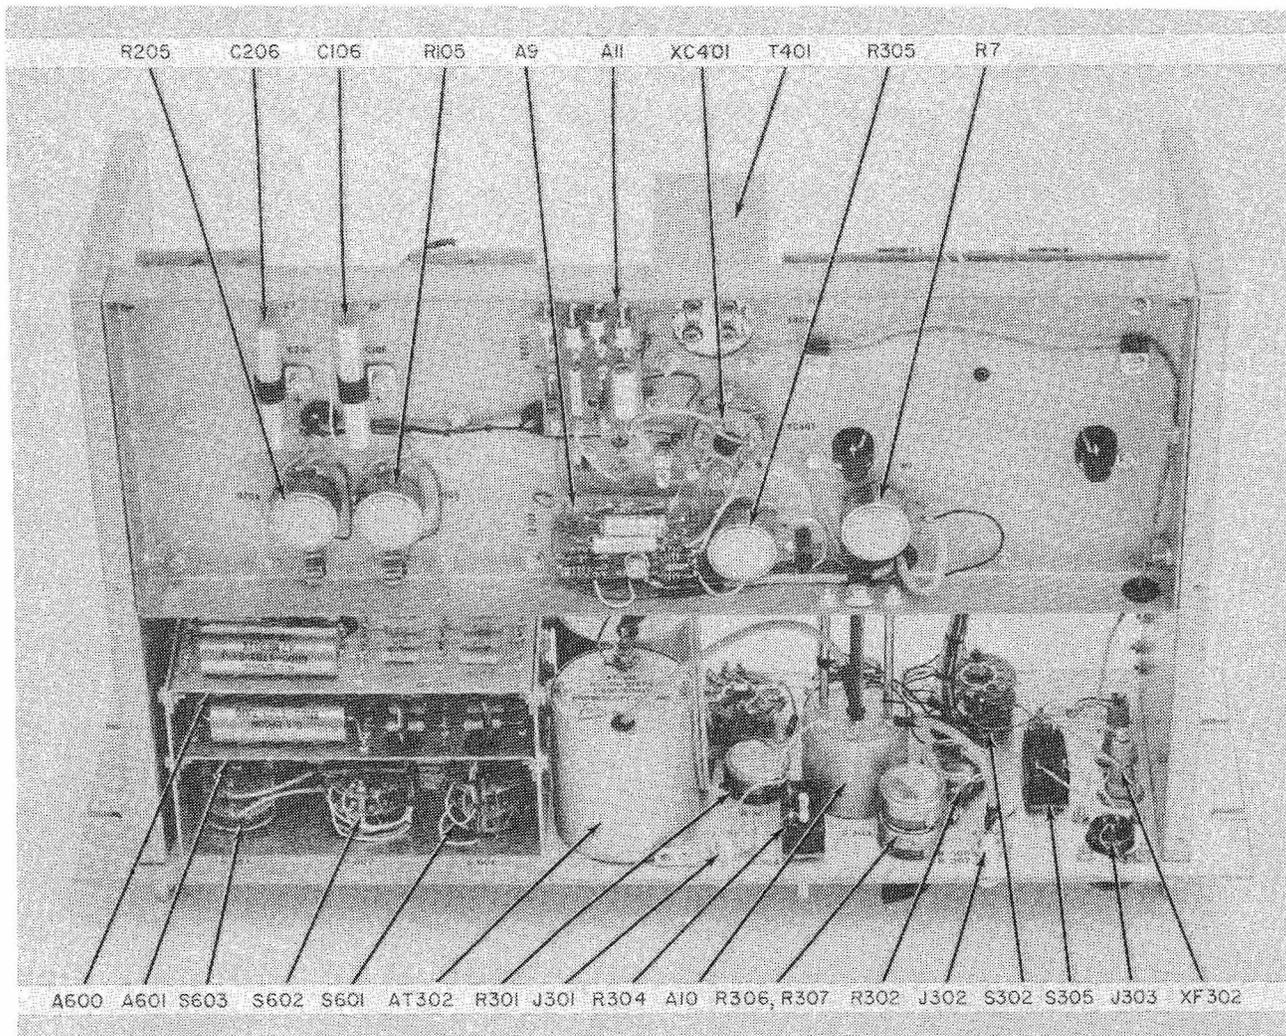
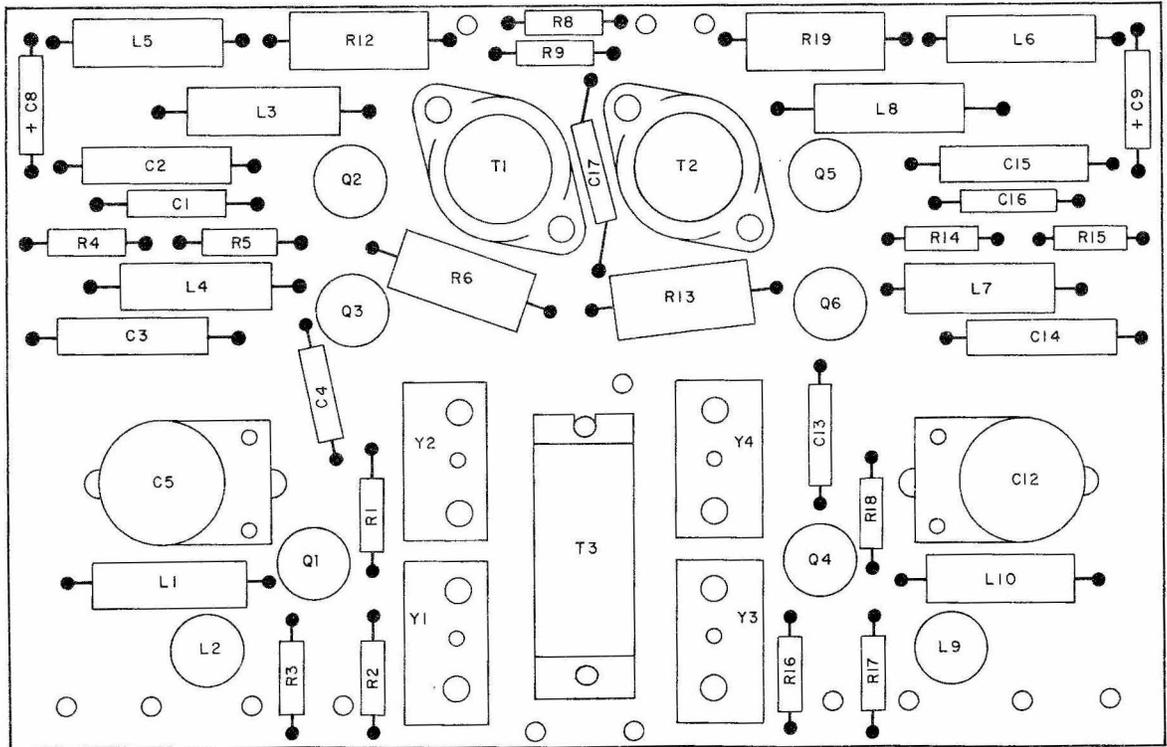
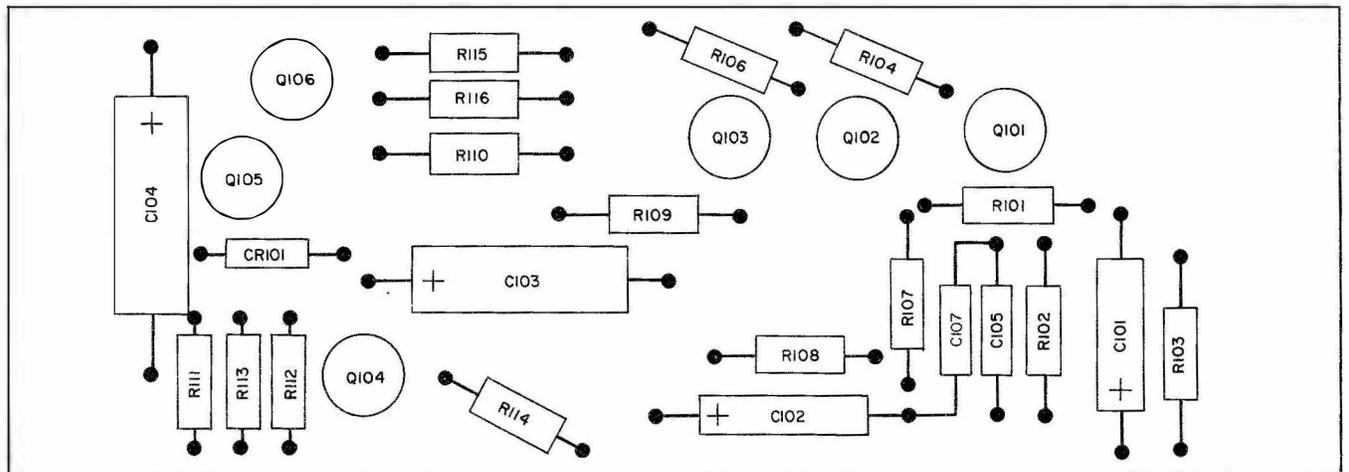

Figure 5-9. Signal Generator, SG-376A/U, Bottom of Chassis
Figure 5-10. I.F. Oscillator Board Assembly, Location of Components
Figure 5-11. Channel A A.F. Oscillator Board Assembly, Location of Components
a. REMOVAL REPAIR AND REPLACEMENT OF ASSEMBLIES AND PARTS. - The locations of the circuit board assemblies, operating controls, indicators, fuses and jacks and top of chassis components, as viewed from above, are shown in figure 5-9. The locations of the components under the chassis are shown in figure 5-10. The locations of the components of the various circuit boards are shown in figures 5-11 through 5-19. No special methods or procedures are required for removal, repair and replacement of assemblies and parts except as follows:
(1) REMOVAL
- (2) Top view of operating controls, indicators, jacks, printed-circuit boards and chassis, figure 5-9.
- (3) Bottom view of chassis, figure 5-10.
- (4) I. F. OSCILLATOR board, figure 5-11.